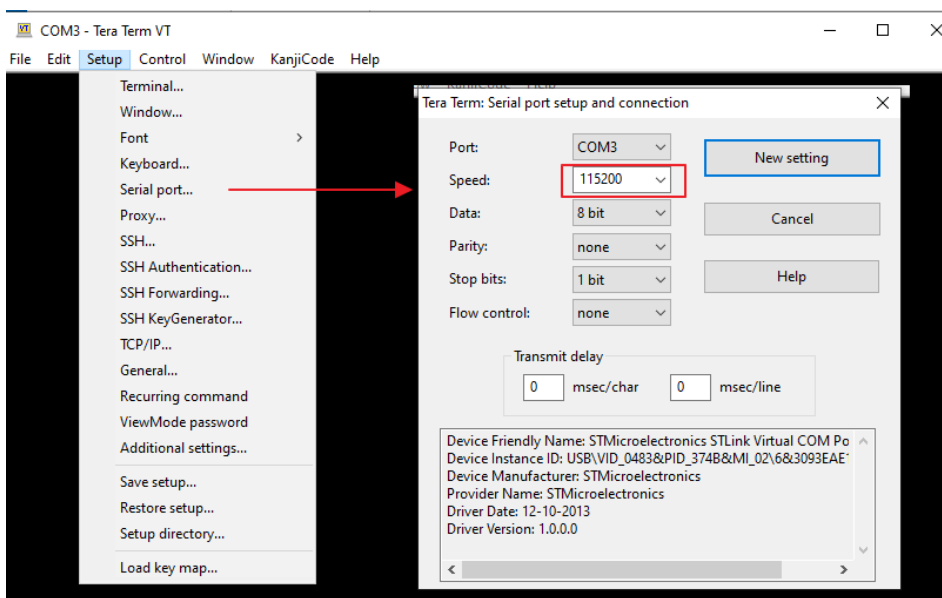

Figure 14: Set the baud rate
Step3: Go to Setup>Serial port, change the Speed to 115200 and click on new setting as showed in figure 14.